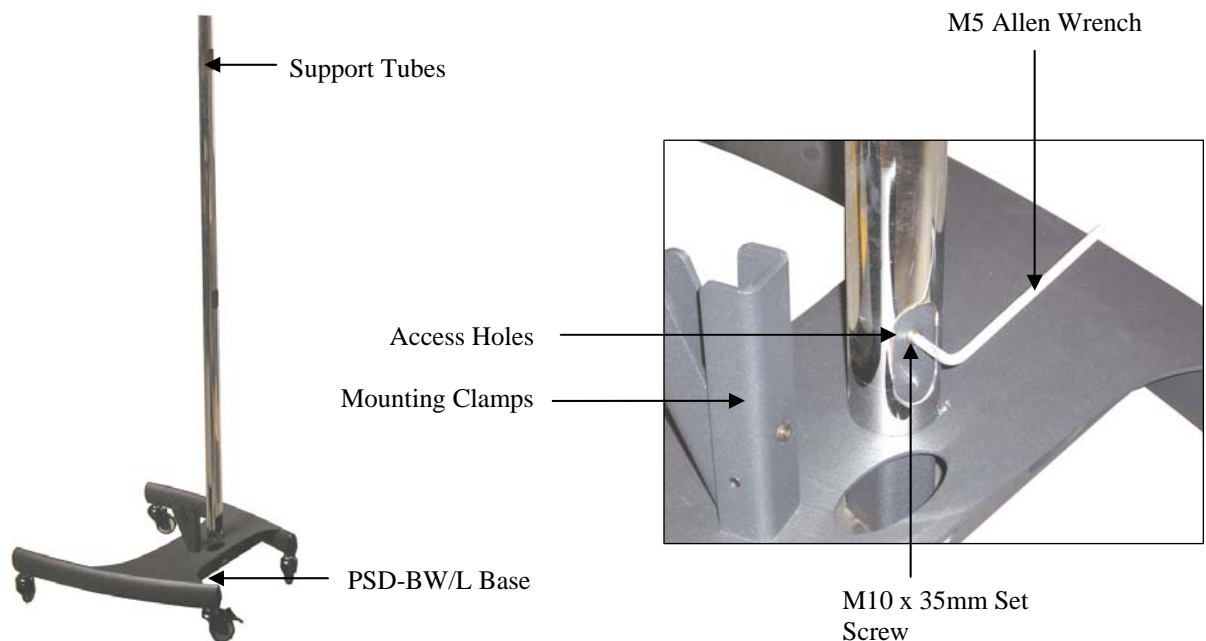

Figure 2
SUPPORT TUBE INSTALLATION (FIGURE 2) - 5 -
Support Tube Installation (Figure 2)
3. Insert the set screws into each hole and tighten using the supplied M5 Allen Wrench (Figure 2).